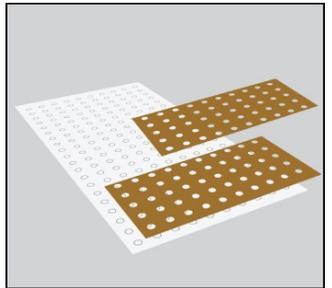

Figure 12: Place holed cardboard inserts onto domed sheet.
4. *Roll the domed sheet:* Once proper heat has been achieved, immediately place holed corrugated inserts on the domed surface sheets. (See Figure 12). With the roller in its upright position at the bottom of the ramp and the segmented main roller closest to the material, tilt the weight of the roller onto the pivoting wheels. Raise the segmented roller